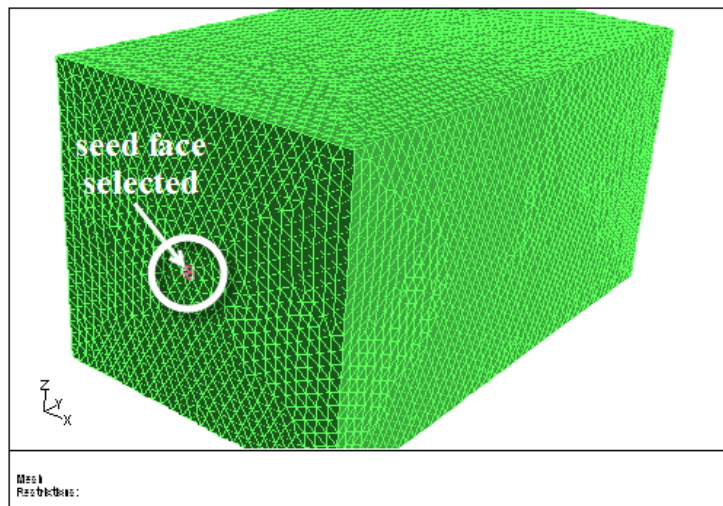

Figure 7.34: Seed Face for Separating the Tunnel Inlet
3. Select the seed face as shown in Figure 7.34.